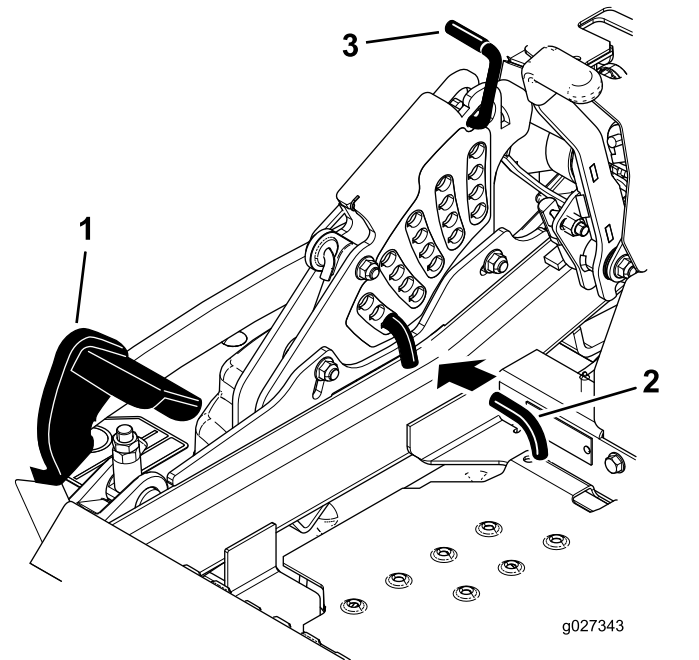

Figure 25
2. Push on the deck-lift pedal with your foot and raise the mower deck to the transport position (also the 140 mm (5-1/2 inch) cutting-height position) (Figure 25).
3. To adjust, rotate the pin 90 degrees and remove the pin from the height-of-cut bracket (Figure 25).
4. Select a hole in the height-of-cut bracket corresponding to the height of cut desired and insert the pin (Figure 25).